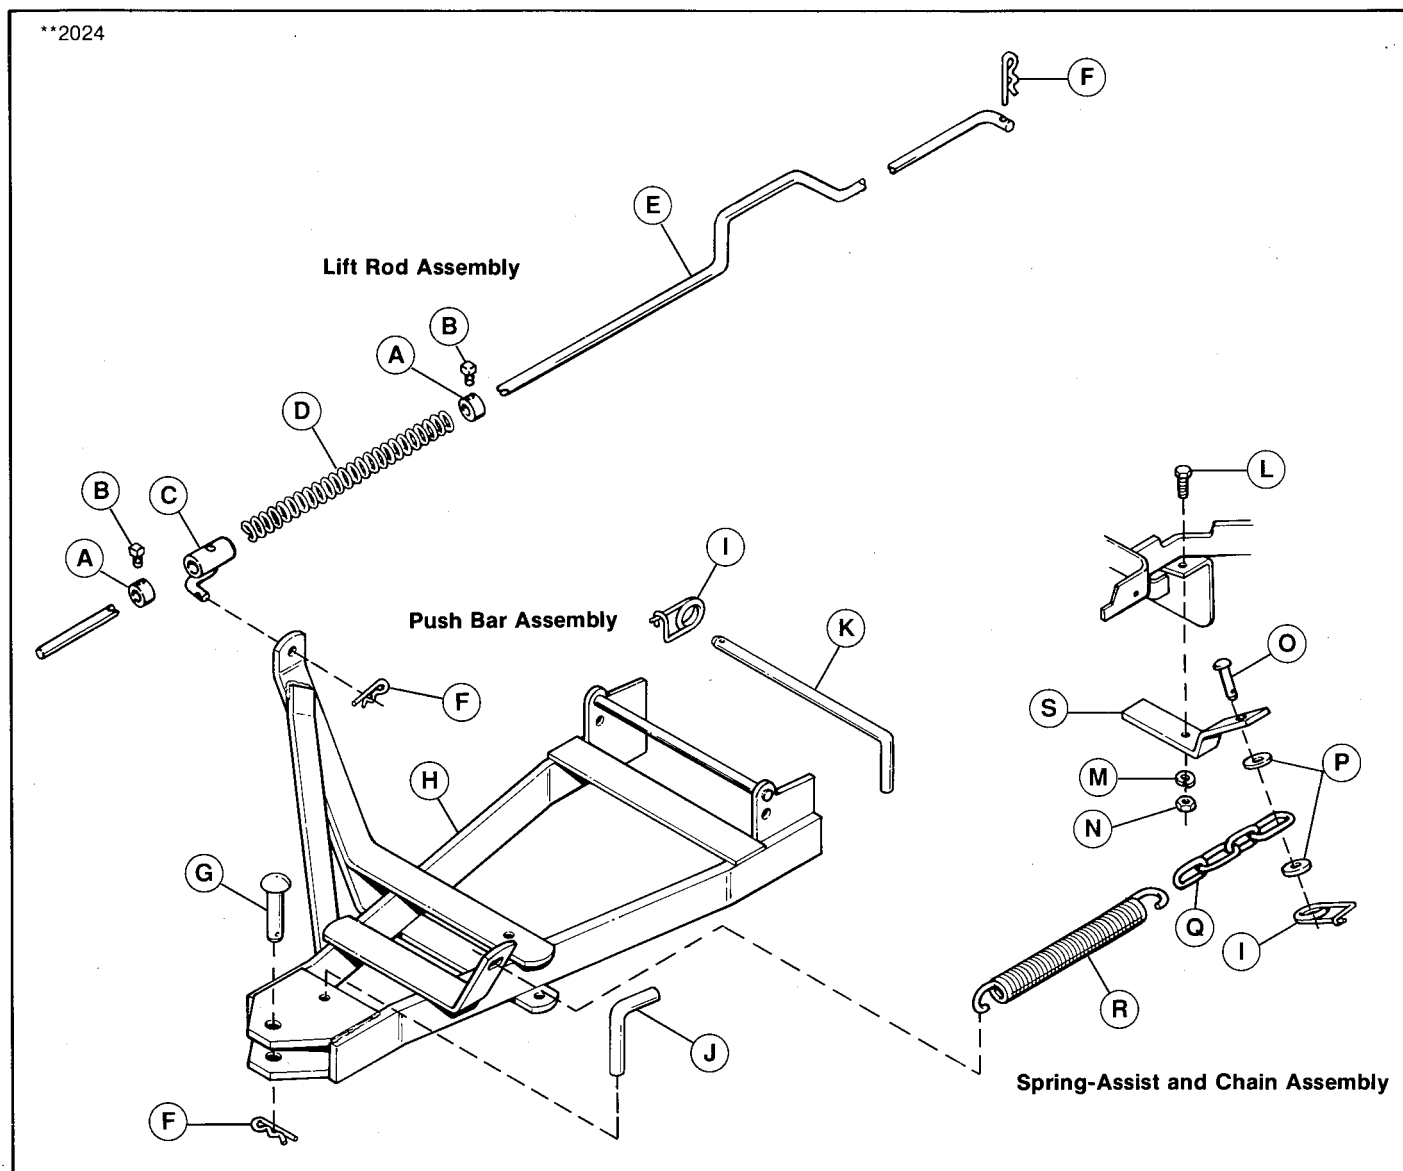
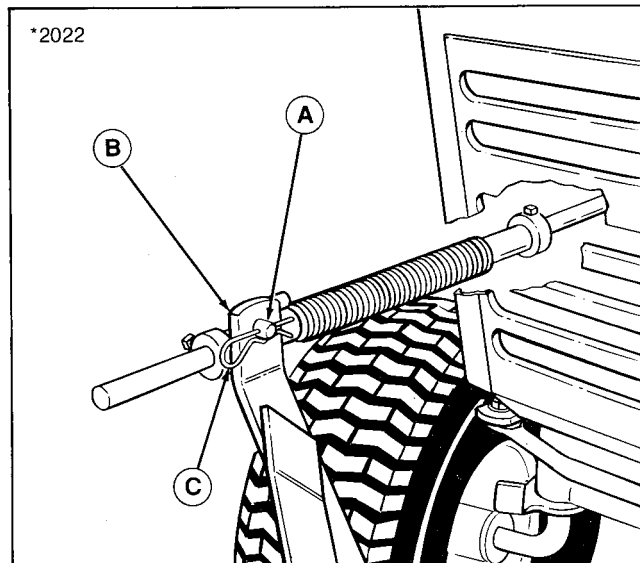

Figure 1. Push Bar and Lift Rod
Figure 7.
7. Assemble lift rod per figure 1. Insert prong of rod guide (A, figure 7) through hole in upright of push bar (B), and secure with spring clip (C).
8. Connect rear of lift rod (E, figure 1) to lift lever mounted on tractor using the spring clip (F).